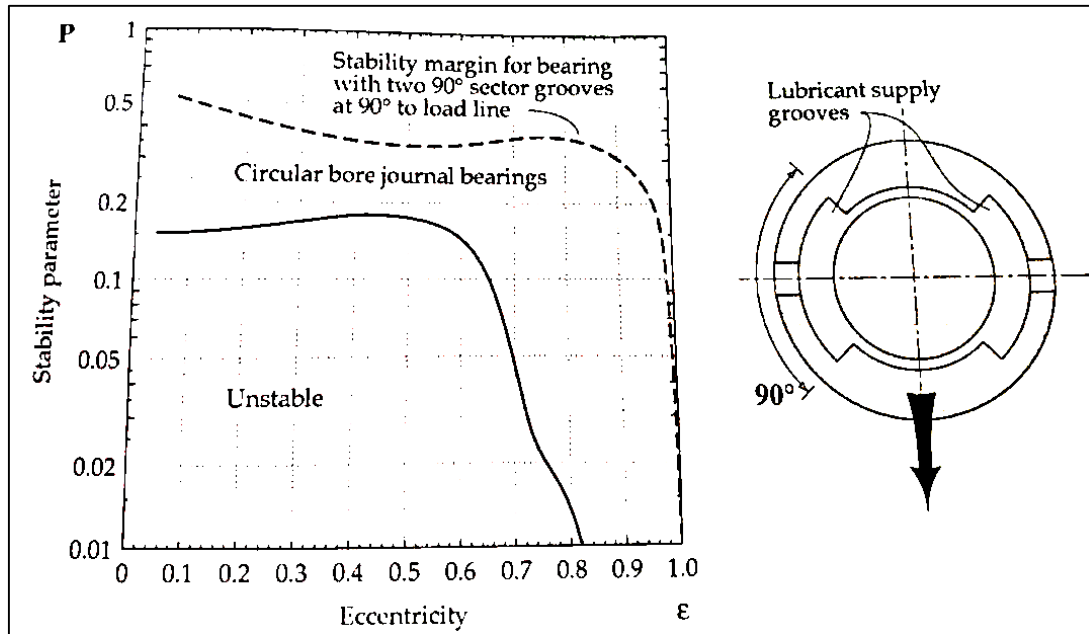

Figure 4 (c)
- (i) Determine the stability of a main wind turbine shaft with a turbine rotor that has a static load on the bearing at 1260 kg and its highest speed is 24.3 rev/min. The parameters of the power system are 850 kW rated output power and 1500 rev/min rated rotation speed. The turbine has an axial and radial clearance of 0.2 mm. The eccentricity varies from 0 to 1 as shown in Figure 4 (c).